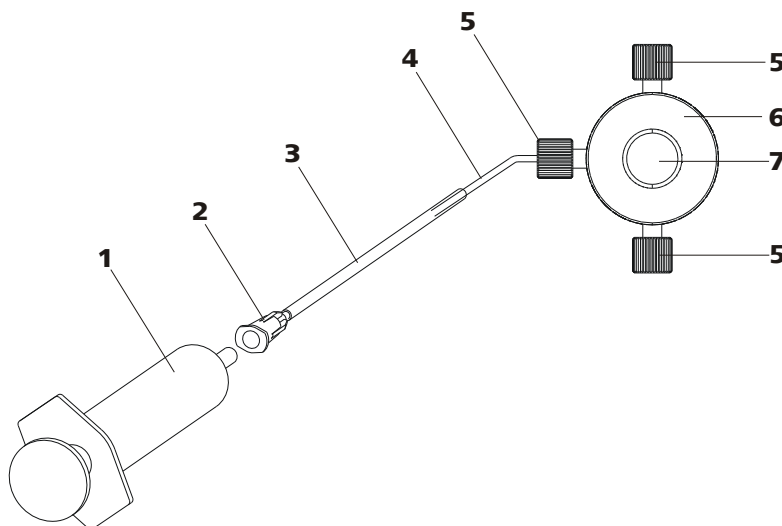

Figure 22 Deaerating the high pressure pump
Deaerate the high pressure pump as follows (see *Figure 22, page 46*):
- Insert syringe (22-**1**) in the Luer connector (22-**2**) of the purging needle (see Figure 22, page 46).